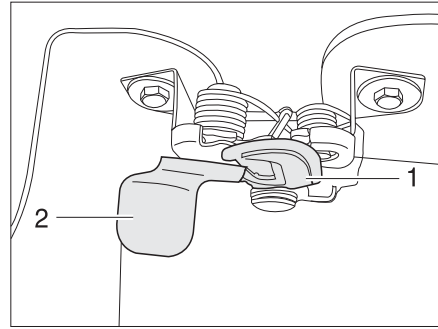

Fig. 30 Release knob on the outside of the bonnet
- Reach under the bonnet with one hand and actuate the safety hook (Fig. 30,1). Do this by reaching behind the plate (Fig. 30,2) and pulling it forward.